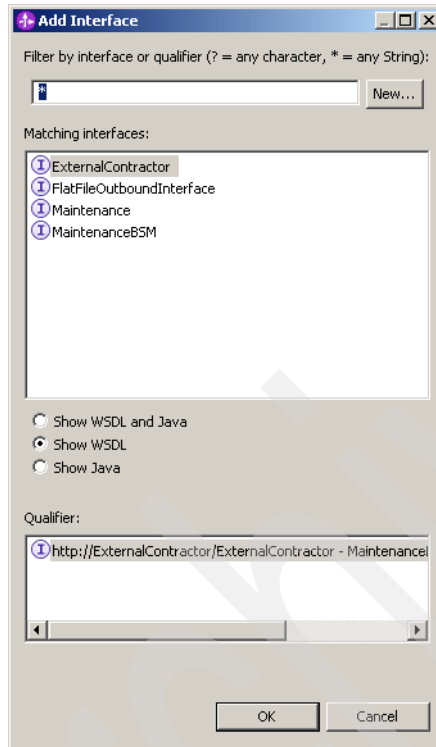

Figure 2-40 Select interface
5. The interface we need here is the ExternalContractor interface in our common MaintenanceLibrary module. Add the interface for this export by clicking at the interface icon at the top of the ExternalContractorOutbound and selecting **ExternalContractor** (Figure 2-40).